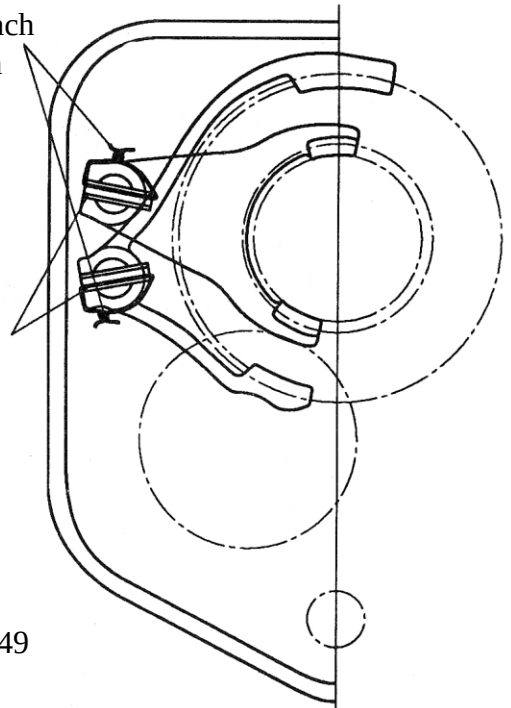

Fig.5-49
- Install spring(roll) pins so that their seams are positioned as illustrated in Fig.5-49
**(2) Reassembly of sub-change gears